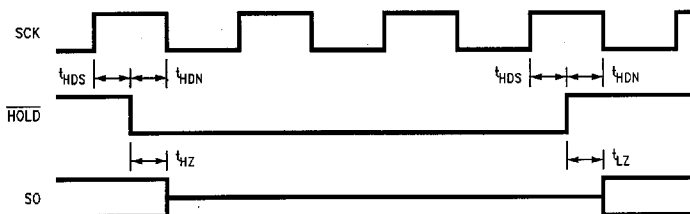

FIGURE 4. HOLD Timing
**HOLD:** The HOLD pin is used in conjunction with the  $\overline{CS}$  to select the device. Once the device is selected and a serial sequence is underway, HOLD may be forced low to suspend further serial communication with the device without resetting the serial sequences. Note that HOLD must be brought low while the SCK pin is low. The device must remain selected during this sequence. To resume serial communication HOLD is brought high while the SCK pin is low. Pins SI, SCK and SO are at a high impedance state during HOLD. See Figure 4.